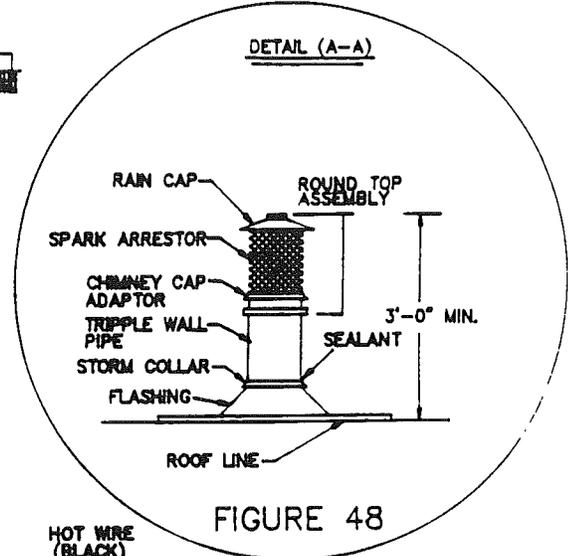

FIGURE 48
2. Install the storm collars over the roof flashing. The storm collar must rest on top of the flashing spacers. Install the tabs through the slot on the opposite end of the storm collar and push storm collar down over the chimney so that it rests on the roof flashing spacers. Pull the tab to tighten the storm collar against the chimney pipe. Seal top edge of storm collar with non-combustible waterproof sealant. See Figure 48.